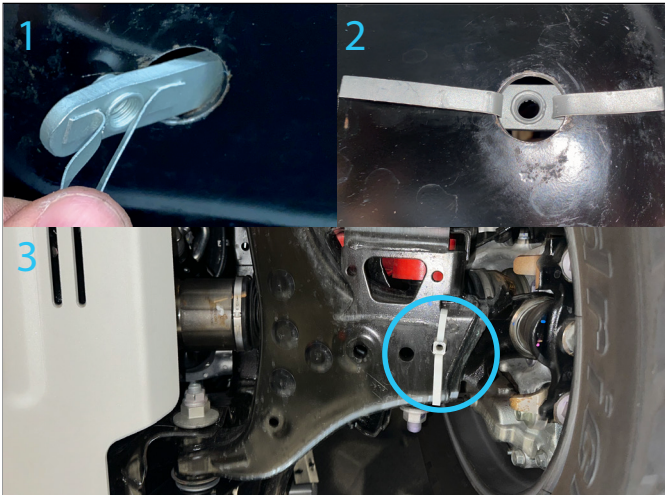

Fig.1
1. Install M8 insert nut with wires (item B) in the left control arm as shown in Fig.1.